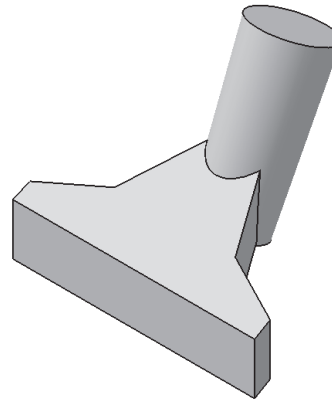

Figure 6-78 Resulting second feature
8. Clear all the radio buttons in the **Fillets** area and choose the **OK** button from the **Drafted Fillet Pad Definition** dialog box. The model, after creating the second feature, is shown in Figure 6-78.